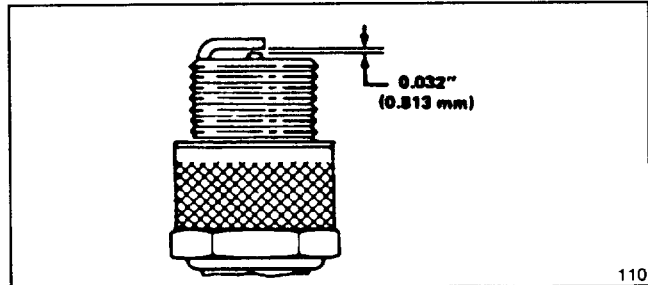

Figure 16
3. Set air gap at 0.032" (0.81 mm) (Fig. 16). Install correctly gapped spark plug and gasket seal. Tighten plug firmly to 10 ft-lb (13.6 N-m).